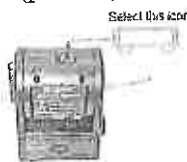

Fig. 1: Motion Sensor setting
2. Connect the Motion Sensor to one of the sensor ports on the top end of the GLX as shown in figure 1. Put the range selection switch on the top end of the Motion Sensor to the 'far' (person) setting.